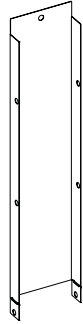

Figure 22
1. Locate the three steel middle mounting brackets under the burner cover. See Figure 22.